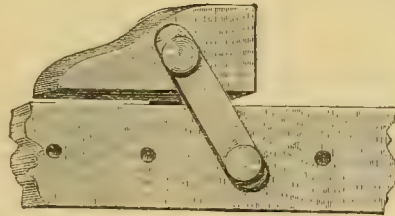

FIG. 4.—MELHUIH'S NEW
3. *Melhuish's New Patent Joiner's Cramp.*—This is a new and useful invention which has been recently patented and produced by Mr. Richard Melhuish, the head of the firm of Melhuish and Sons, 83 and 85, Fetter Lane, Holborn, W.C., and which he is now in a position to supply to order at 10s. each. Now all woodworkers are well aware that a joiner's cramp is a very cumbersome and weighty appliance, especially when of any considerable size and length, and when a joiner has to carry one with him to his work, he never regrets his arrival at his journey's end. With this new cramp, however, he has nothing more to carry with him but the portion marked A, in Fig. 4, which consists of an iron carrier far more rigid and solid than the fixed jaw of the old-fashioned cramp, and which is pierced for a bar cut